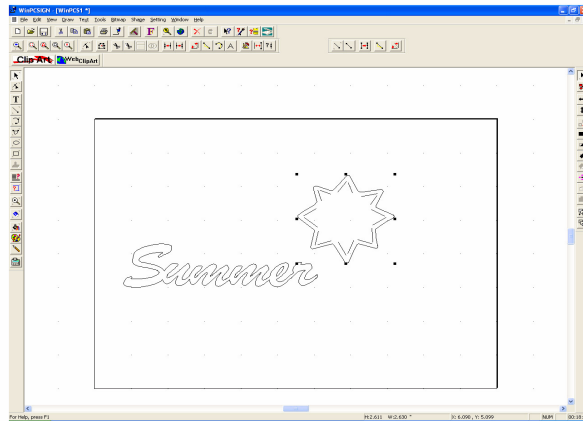

Figure 78
- 2 The Summer Sun image should appear in the work space As shown in figure 78..